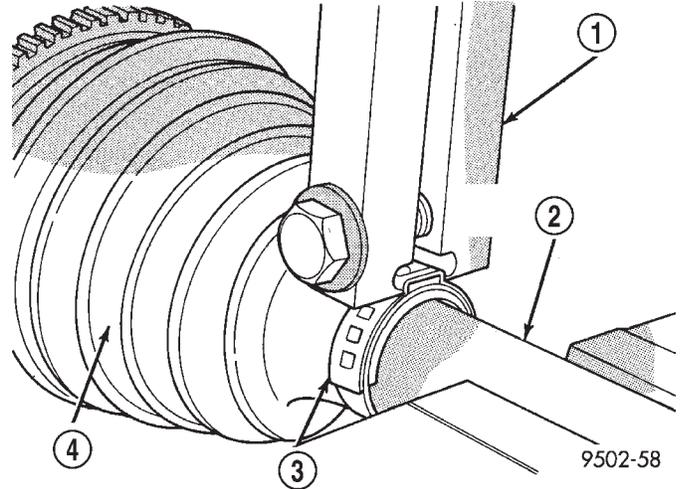
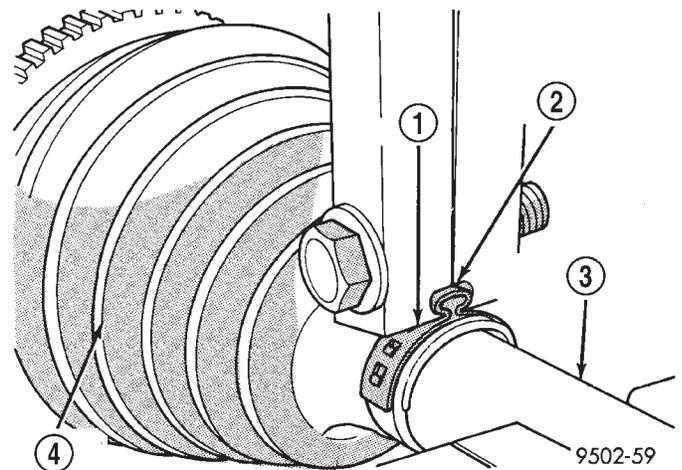

Fig. 27 Crimping Tool Installed on Sealing Boot Clamp
Fig. 28 Sealing Boot Retaining Clamp Installed
(7) Clamp sealing boot onto interconnecting shaft using crimper, Special Tool C-4975-A and the following procedure. Place crimping tool C-4975-A over bridge of clamp (Fig. 27). Tighten nut on crimping tool C-4975-A until jaws on tool are closed completely together, face to face (Fig. 28).